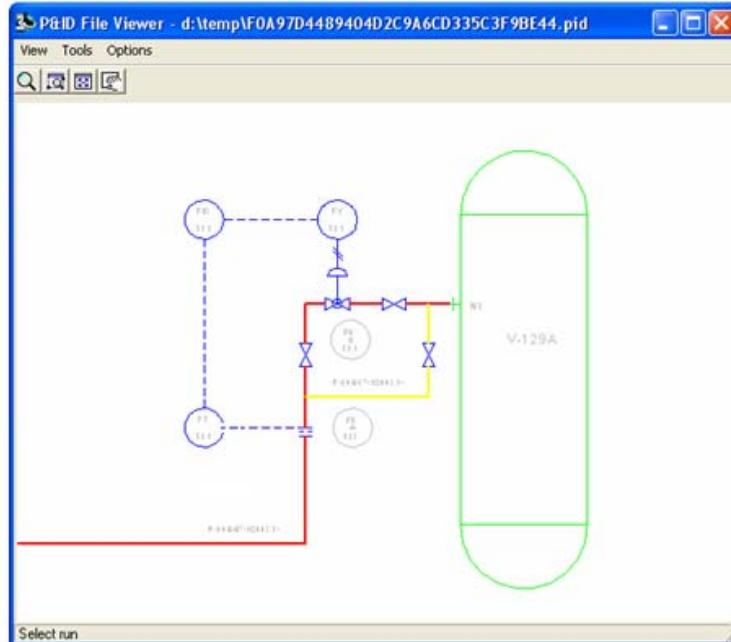

Figure 35: Selected bypass line
13. The **P&ID File Viewer** window appears. In the **P&ID File Viewer**, select the bypass line, as shown in Figure 35.